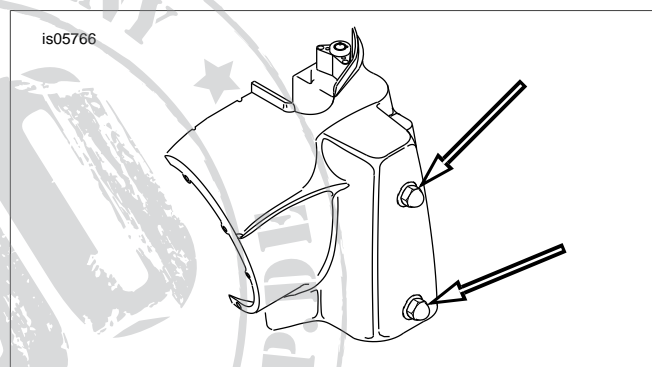

Figure 8. Headlamp Nacelle Fasteners (FLHR Models)
See Figure 8. Loosen the two acorn nuts securing the left half of the nacelle (see arrows). Repeat for the right half of the nacelle.
10. See Figure 8. Tighten the two acorn nuts securing the left half of the nacelle to 72-108 **in-lbs** (8.1-12.2 Nm). Repeat for the right half of the nacelle.